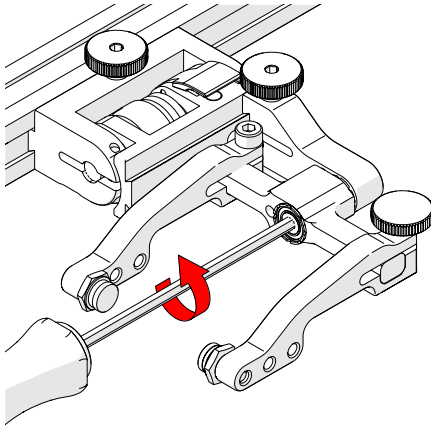

Fig. 162 - Unscrew yoke pivot screw
1. Unscrew the yoke from the swing arm (Fig. 162).